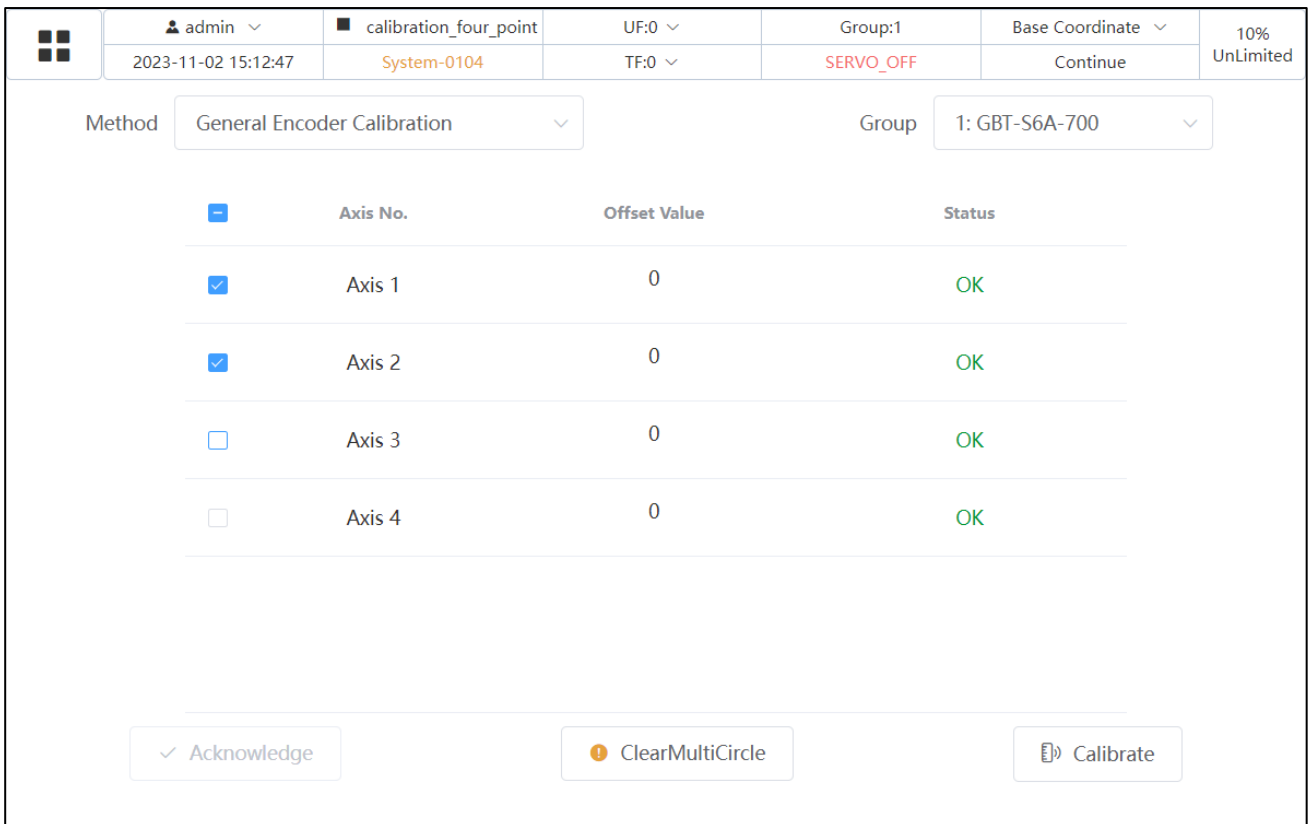

Fig. 2.44 Selection Single-axis Screen
4. Click the box in front of the axis number to select all axes to be calibrated as shown in 2.43; alternatively, select an axis to be calibrated separately as shown in Fig. 2.44.